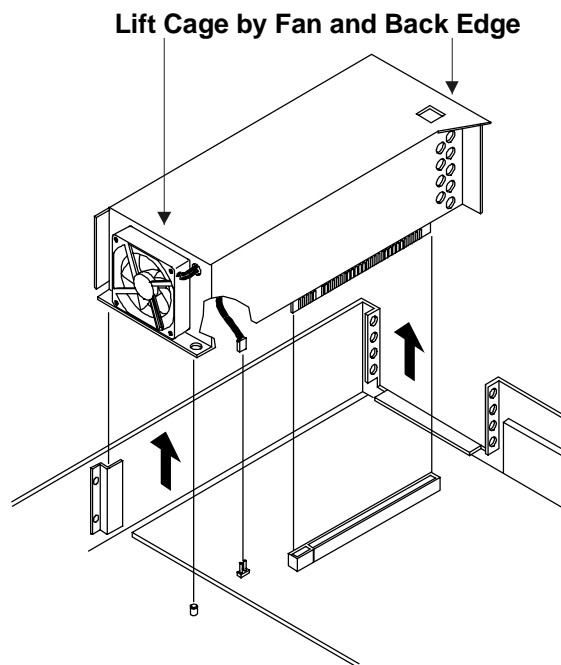

Figure 2-5. Removing the PCI Card Cage
See Figure 2-5.
2. Grip the PCI card cage by the fan and back edge, and firmly lift the cage *straight* up to remove it. See Figure 2-5.